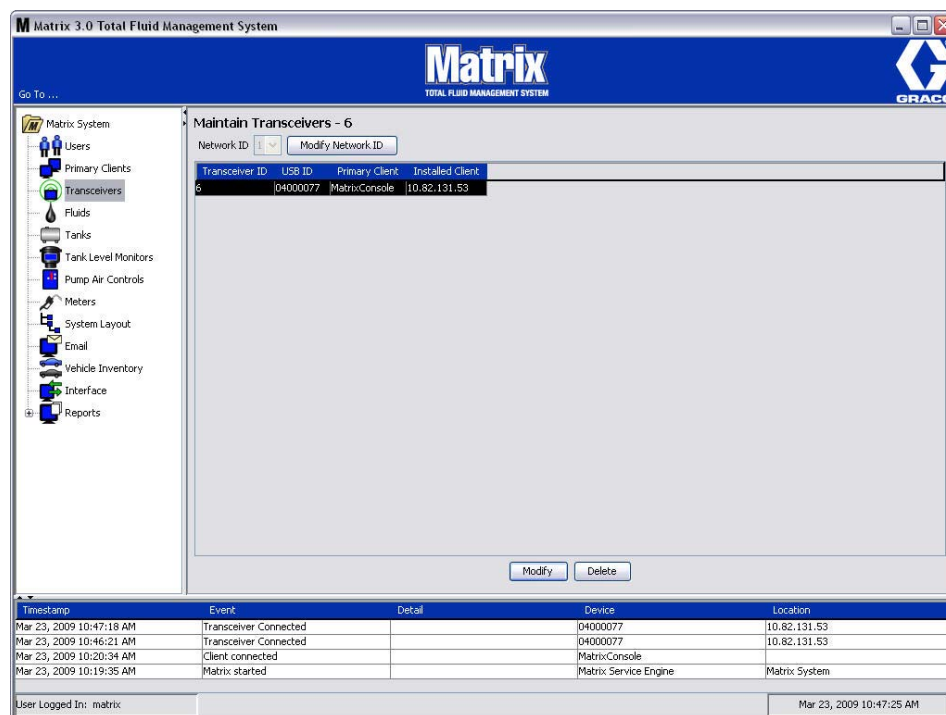
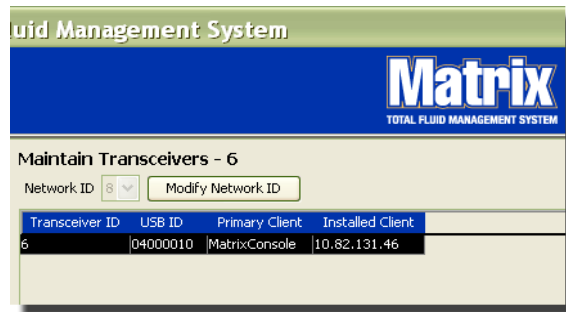

FIG. 95
FIG. 96
The Transceiver screen shown in FIG. 95 is used to:
2. To set the Network ID, select the Modify Network ID button shown in FIG. 96.
4. The Network ID number selected now displays on the top of the Transceiver screen in the Network ID field as shown in FIG. 95 and FIG. 96.